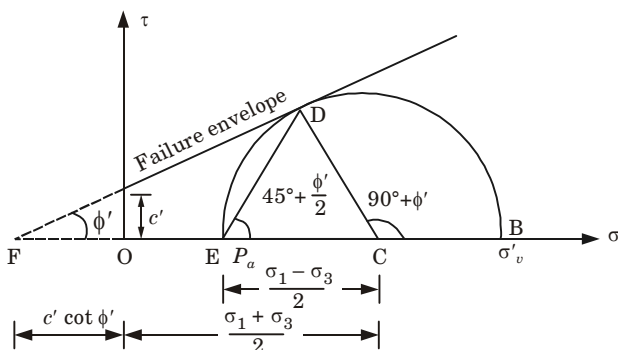

Fig. 5.3.1.
1. Fig. 5.3.1 shows the Mohr circle in which point B indicates the vertical stress and point E shows the active pressure.